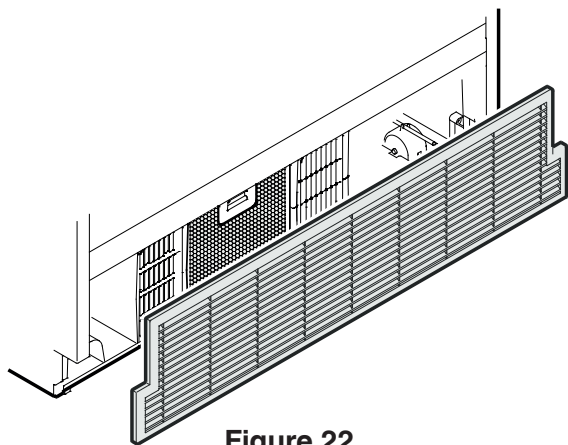

Figure 22
- Open the bottom freezer drawer and remove the ventilation grille by pulling forwards - **Figure 22**.